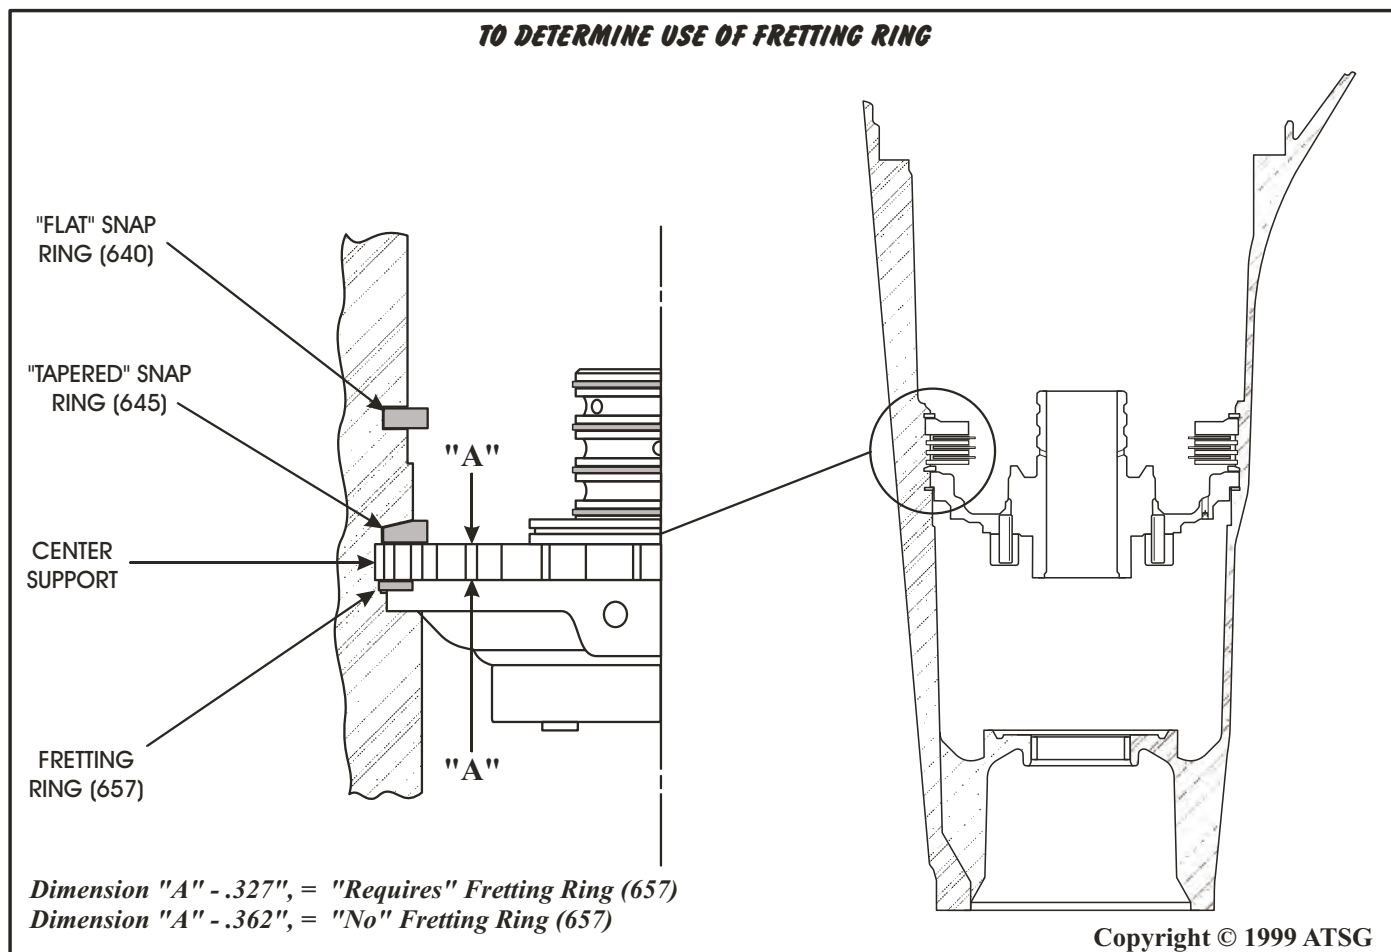

Figure 106
**Note:** Use of the fretting snap ring (657) is determined by the thickness of the lug area on the center support. The cases are the same this area. Refer to Figure 106 to determine whether your center support requires the fretting snap ring (657), and proper location in the transmission case.